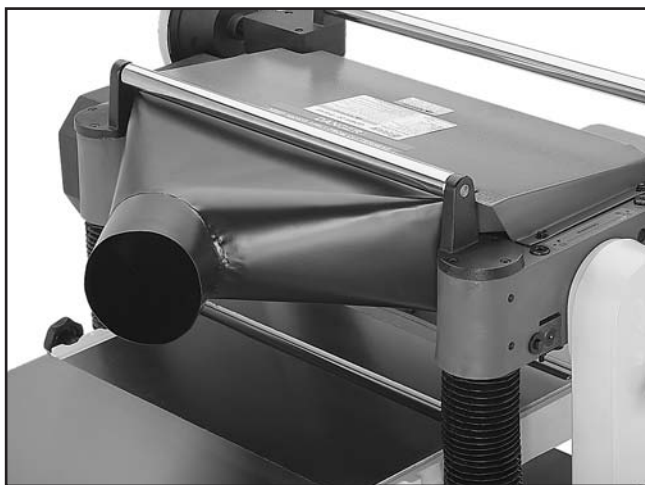

Figure 10. Dust hood attached.
8. **Model G0453:** Attach the dust hood to the top of the planer with the M6-1 x 10 hex bolts, 6mm flat washers, and M6-1 hex nuts as shown in **Figure 10**, then attach the bottom of the dust hood to the planer with the M8-1.25 x 20 cap screws.